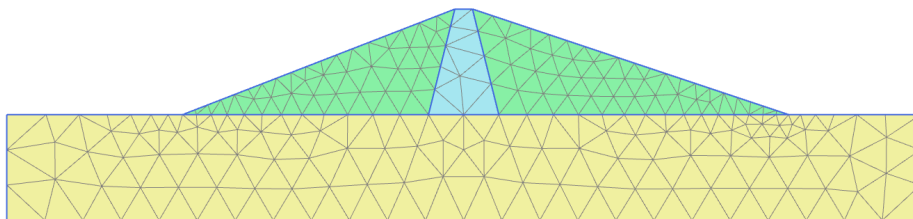

Figure 14–2: The generated mesh
- 3 Click the **View mesh** button  to view the mesh which is shown in Figure 14–2 \(p. 217\).